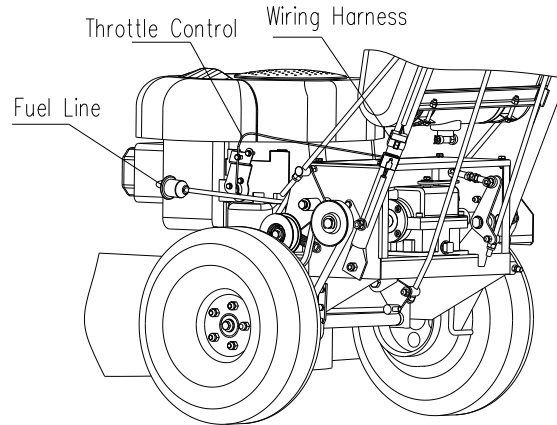

FIG 5
- The Throttle Cable must be attached to the engine according to the Engine Operator's Manual. The Fuel Tank Line connects to the line of the engine. (The positions of Fuel Filter and Throttle Cable Attachment are a bit different on different models of Engines.) See FIG 5